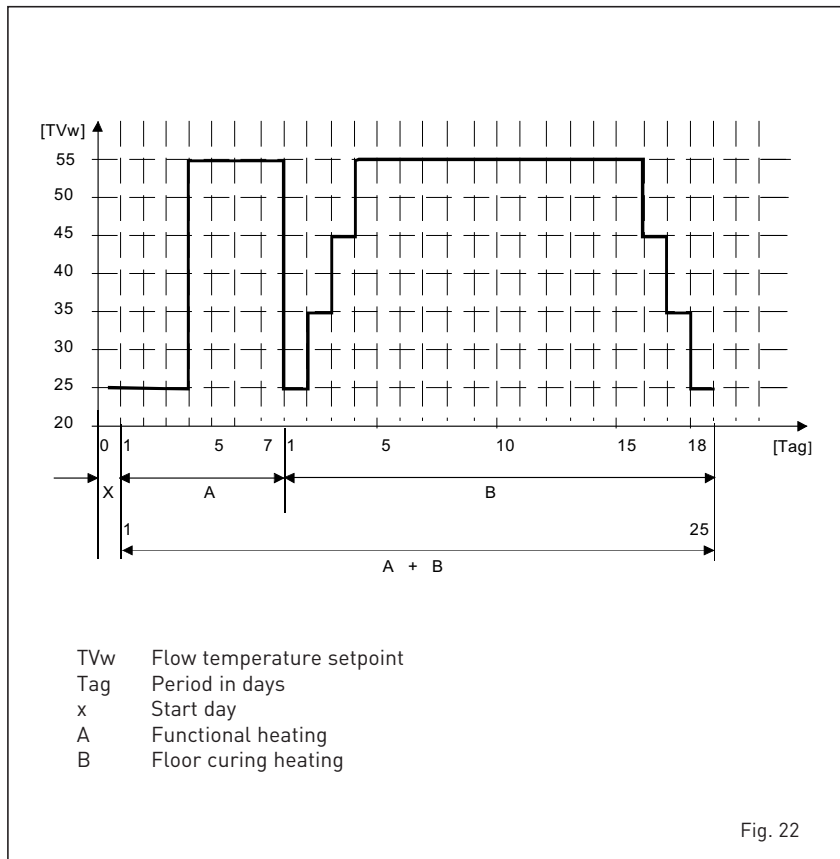

Fig. 22
4.5.2 Operation floor drying (fig. 22)
The diagram fig. 22 reports the development of the curve.